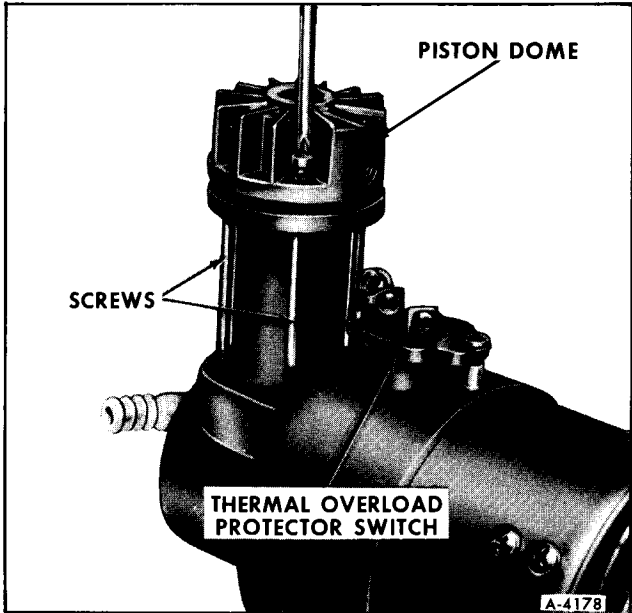

Figure 32—Removing Screws From Piston Dome
2. Remove four screws from piston dome as shown in Figure 32. Remove piston dome and its gasket. Remove valve plate and its gasket.
THERMAL OVERLOAD PROTECTOR SWITCH (FIGURE 32)